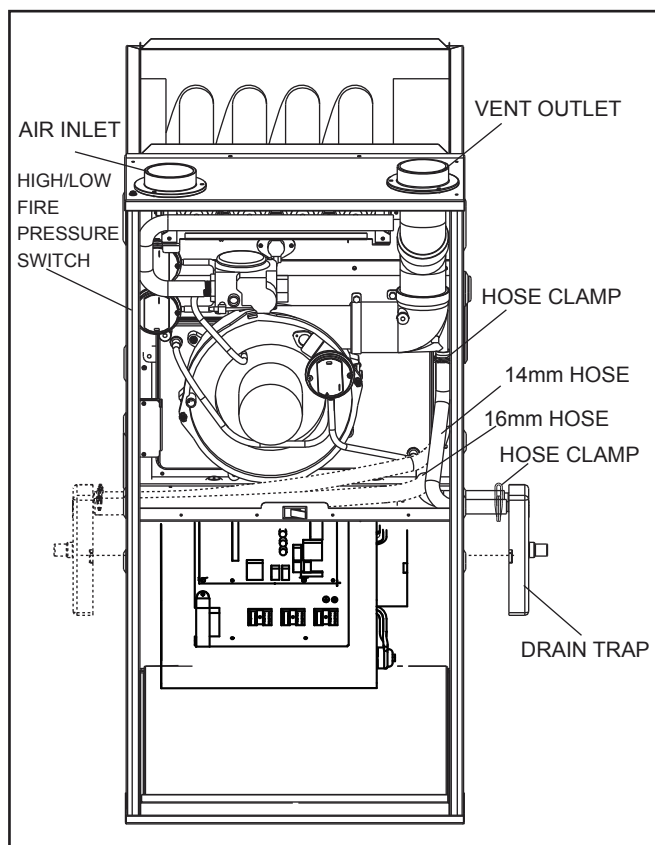

Fig. 11 - Upflow Installation, Top Venting
1. Top venting (see Fig. 11)
- Connect 16mm hose between collector box and trap and connect 14mm hose between elbow and trap. (see Fig. 11). Cut the excess hoses if necessary.